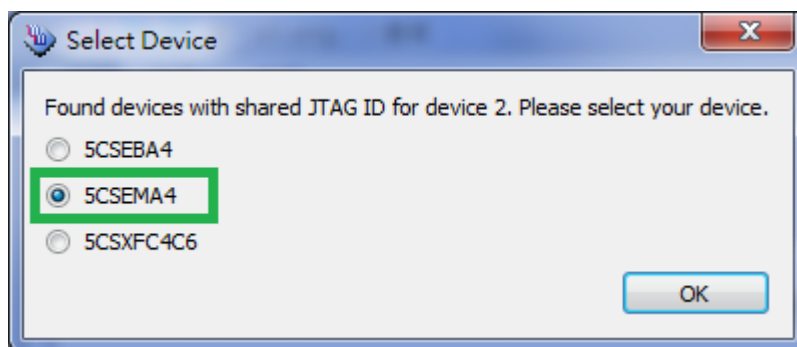

Figure 3-4 Select 5CSEMA4 device
2. Select detected device associated with the board, as circled in **Figure 3-4**.